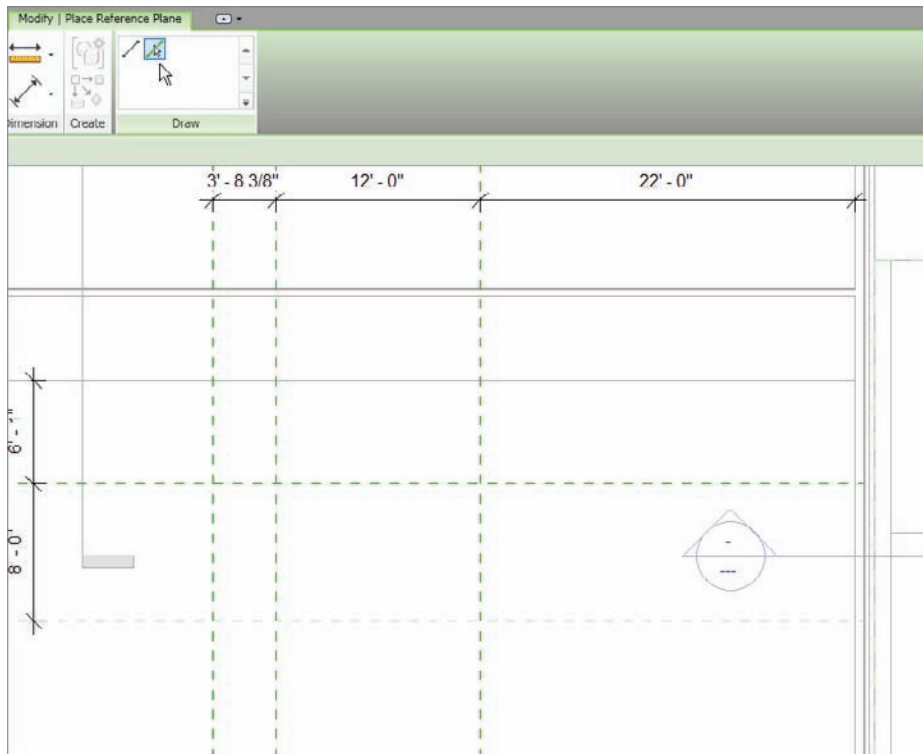

FIGURE 10.65 Using dimensions to lay out the centerlines of the stairs
2. Click the Pick Lines button and then offset a grid, as shown in Figure 10.65. Start with the wall at the right and the new floor edge.